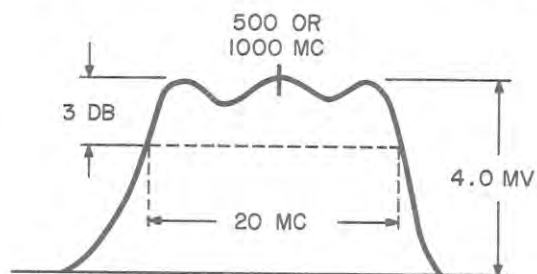

Figure 5-11. 490-1000 MC RF Tuner Response Waveform at CR1.
- q. Fine tune the RF tuner until the 750 mc marker is centered on the response waveform. The waveform should have the characteristics illustrated in Figure 5-11. Incorrect response can not be corrected in the field. Do not attempt alignment of the preselector. Return the tuner to the factory or proper facility for realignment. Rotate the tuning crank over the tuning range stopping at a point at which the RF response is relatively flat and the traveling marker "birdie" is within 3.3 mc of either skirt of the response.